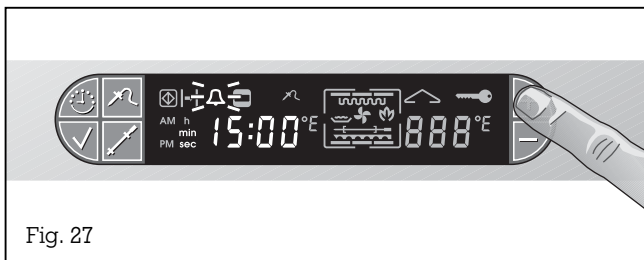

Fig. 27
- Press the + key. The short time symbol  $\Delta$  flashes (Fig. 27).